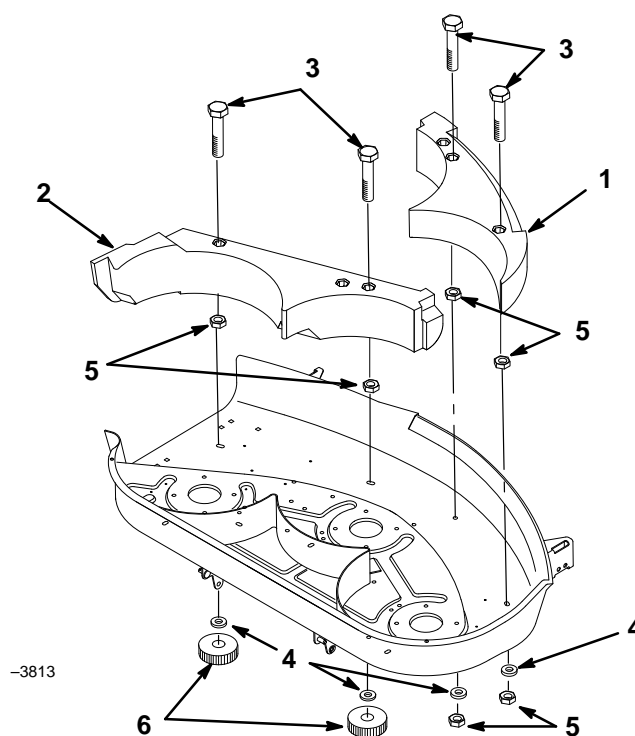

Figure 5
1. Place the left side baffle inside the cutting chamber. Secure it with (2) 5/16" locknuts and (2) Bellville washers (Fig. 5).
2. Place the right side baffle inside the cutting chamber so the extended lug interlocks with the left side baffle, and secure it with (2) knobs and 2 Bellville washers (Fig. 5).
2. Remove the knobs and Bellville washers from the right side baffle (Fig. 5).